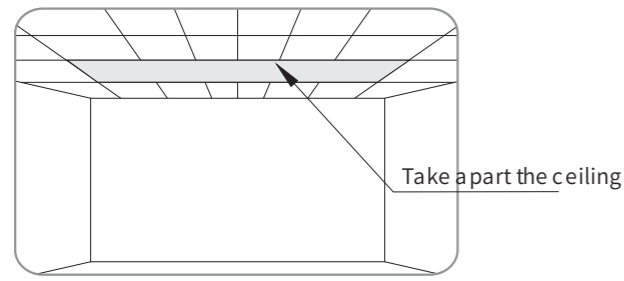
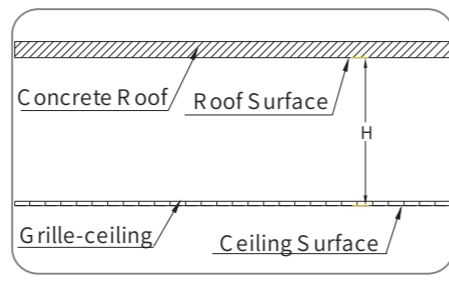

Figure 1
Figure 2
1. Choose a position according to the required space, and then take a part the ceiling (figure 1). Please measure the distance H between concrete roof and ceiling surface correctly (figure 2).